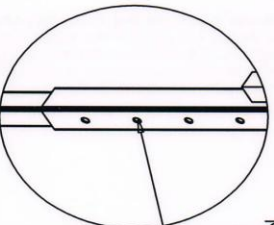

FIGURE 3
- 5) Position both Landing Support Legs (Item 2) into locating sockets (see Figure 3). Please note that the Landing Support Legs are adjustable to suit ground conditions.
- 8) Secure both Landing Support Legs (Item 2) into position using designated fixings (see Figure 3).